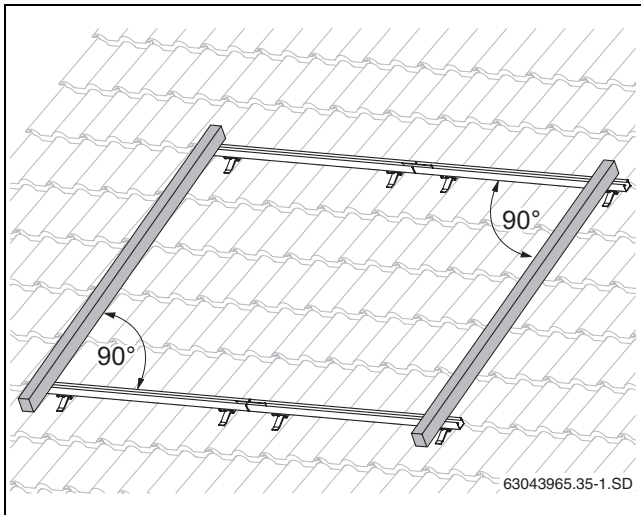

Fig. 29 Aligning the profile rails
- ▶ Align the upper and lower profile rails to the side flush with each other and level them (Fig. 29, use a spirit level).
Measure the diagonals or place a roof batten (Fig. 29, [1]), for example, at the ends of the profile rails. The angle between roof batten and profile rail must be 90°. Align the profile rails over the slotted holes.